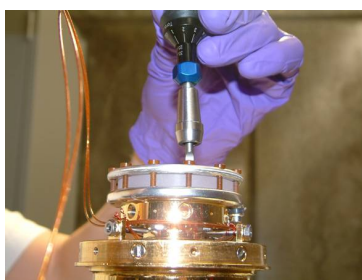

Figure 3.6: Tightening Vespel screws with torque screw driver to fix the sample plate
6. Attach the sample to the cryostat using the brown Vespel screws. Initially use your fingers and do not tighten too much. Then use the fixed torque screw driver (20 cNm, Fig. 3.6) to tighten the screws fully following a star pattern. After tightening all screws, make *one full round* to ensure that all screws are tight using the same torque screw driver. Any broken screws can be removed using a flat nose pliers and replaced by a clean spare Vespel screw from the workbench of the clean area.